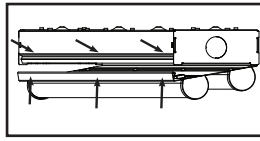

Fig. 4
- Reinstall channel cover by hooking one side around channel and then pushing other side up and over the emboss. To prevent bending of channel cover, start at the middle of fixture and work your way to each end. See Fig. 4.